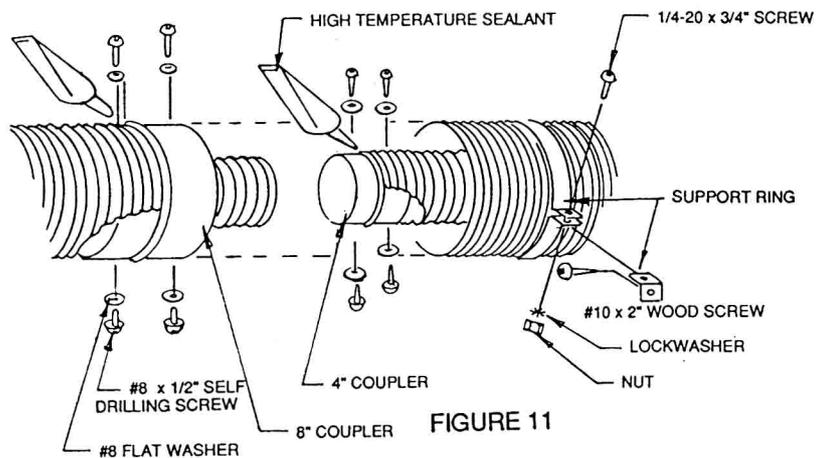
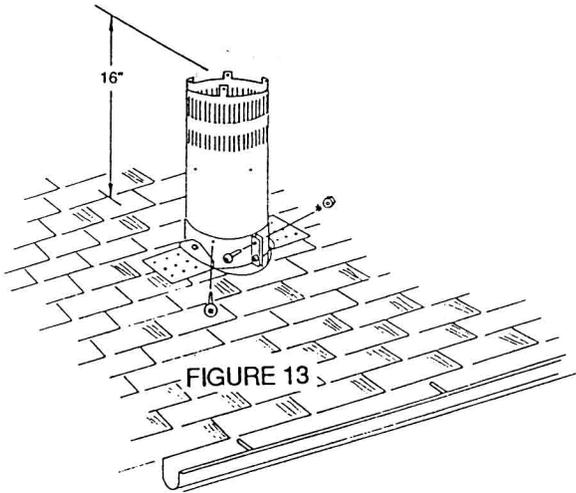

FIGURE 11
FIGURE 13
6. If more than one length of liner needs to be used to reach the fireplace, couple them together as illustrated in Figure 11. Seal the joints using the same procedure as described in Points 4 and 5 above.
The vent system must be supported approximately every 3 feet, for both vertical and horizontal runs (Fig. 11). Use support rings provided.
- Attach the telescoping sleeve to the air terminal and secure using the 3 screws provided (Fig.13). Slip an 8" diameter length of aluminum flexible liner a minimum of 2 inches over the outer sleeve of the air terminal. Secure to the sleeve using 3 screws and flat washers. Seal the joint and screw heads using the high temperature sealant (Fig. 11).
- Thread the air terminal assembly liner down through the roof support, clamping the support to the air terminal (Do not clamp the flexible aluminum liner). Fasten the air terminal to the roof support using the screws provided. The air terminal must be located vertically and plumb, a minimum of 16" above the point where it penetrates the roof (Fig. 13).
- If more liner needs to be used to reach the fireplace, follow the same procedure as found in Section 4.1 point 6 above. The venting system must be supported approximately every 3 feet, for both vertical and horizontal runs (Fig. 11).